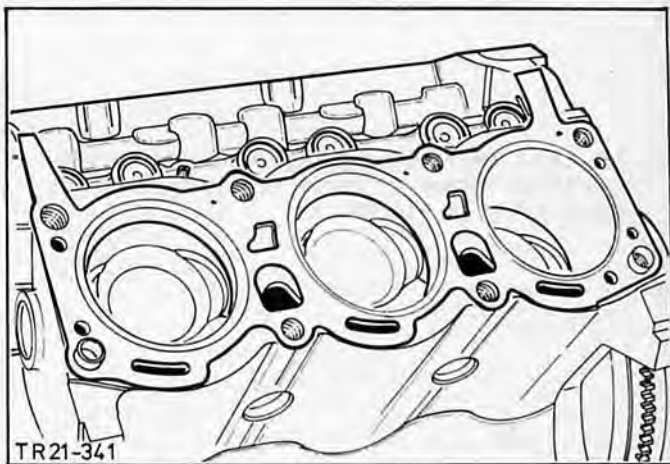

Fig.63. Cylinder head gasket in position.
57. Place cylinder head gasket over the guide sleeves on the cylinder block, Fig.63.